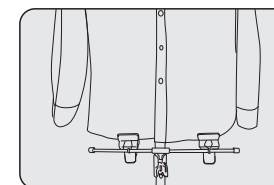

FIGURE 9
3. Hang the garment such as trousers you wish to steam and fix it by the two clips and the holding nips as shown in figure 9.